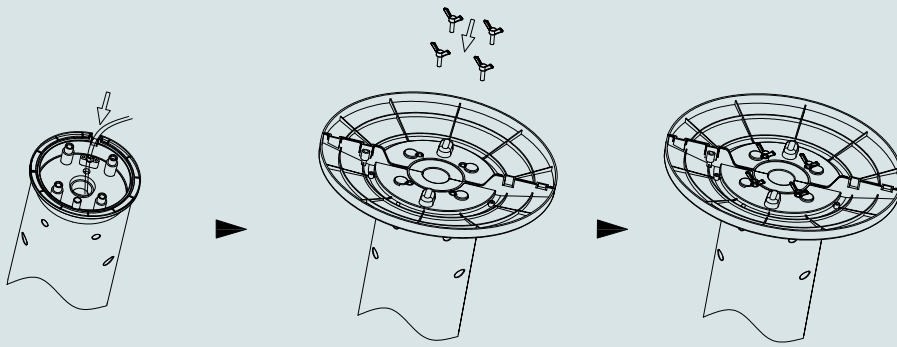

FIG. 2
- Put the wire in the recess, then fix the base on the fan body with four screws (included), and turn the screws clockwise. (Fig. 2)